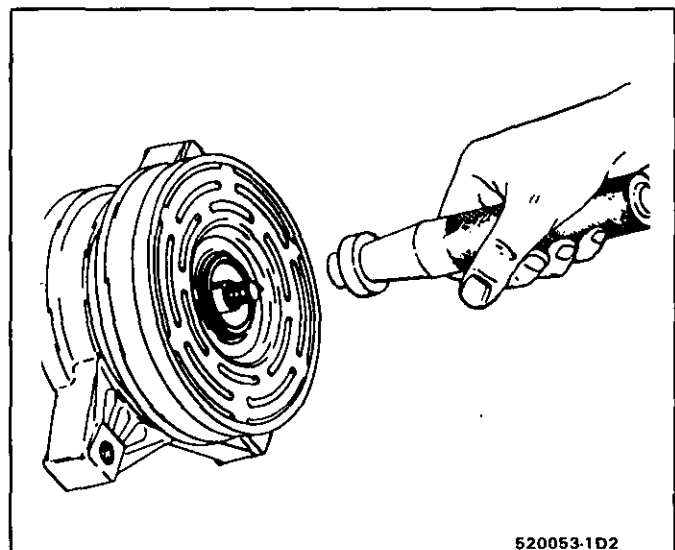

Fig. 25 Removing or Installing Shaft Seal
6. Place seal protector J-34614 over the end of the shaft to prevent seal damage. Fully engage the knurled tangs of seal remover-installer J-23128-A into the recessed portion of the seal by turning the handle clockwise. Remove the seal from the compressor with a rotary-pulling motion (Fig. 25). Discard the seal. The handle should be hand-tightened securely. Do not use a wrench or pliers.
3. Attach the seal to the seal remover and installer J-23128-A and dip the seal in clean 525 viscosity refrigerant oil to coat the seal face and outer surface. Install the seal over the compressor shaft and J-34614 seal protector and push the seal into place with a rotary motion (Fig. 25). Take care not to dislodge the seat O-ring. Be sure seal makes a good seal with O-ring. Remove installer J-23128-A and seal protector J-34614.